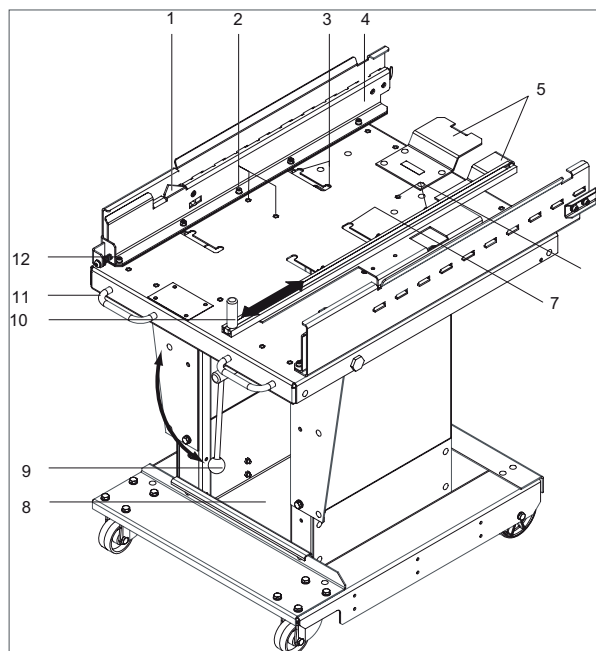

Figure 65
1. Release three screws on each track (Figure 65, 2).
3. Adapt position of unlocking bar (10) also to the appropriate panel (same procedure).